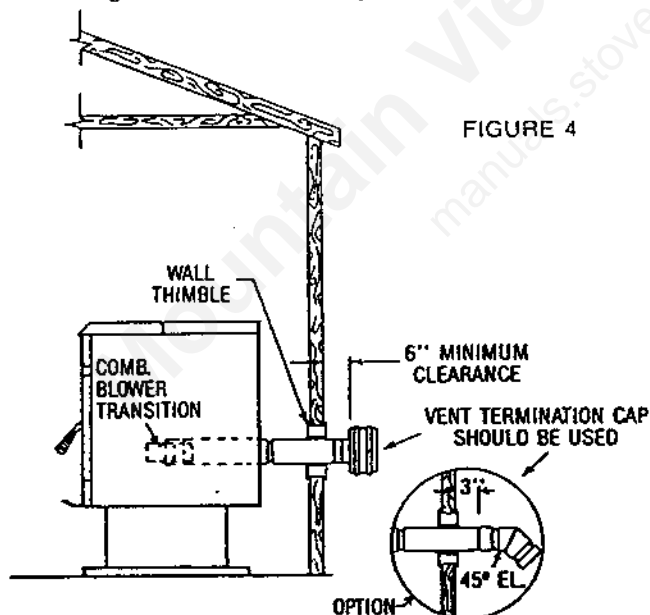

FIGURE 4
An exhaust adapter is included with freestanding models to adapt to Dura Vent L-Vent chimney. It should be attached directly to the combustion blower transition (see figure 4) and permanently sealed.
4. Attach enough pipe to penetrate and extend at least 6" beyond exterior walls (see figure 4).